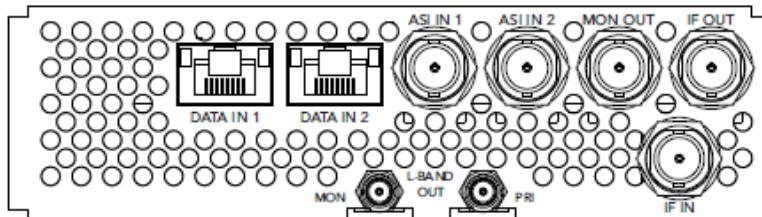

Figure 7: SMD 920 L-Band output - shown with SMD 912(A)
The SMD 920 in combination with the SMD 912(A) modulator option has 7 I/Os (Figure 7).